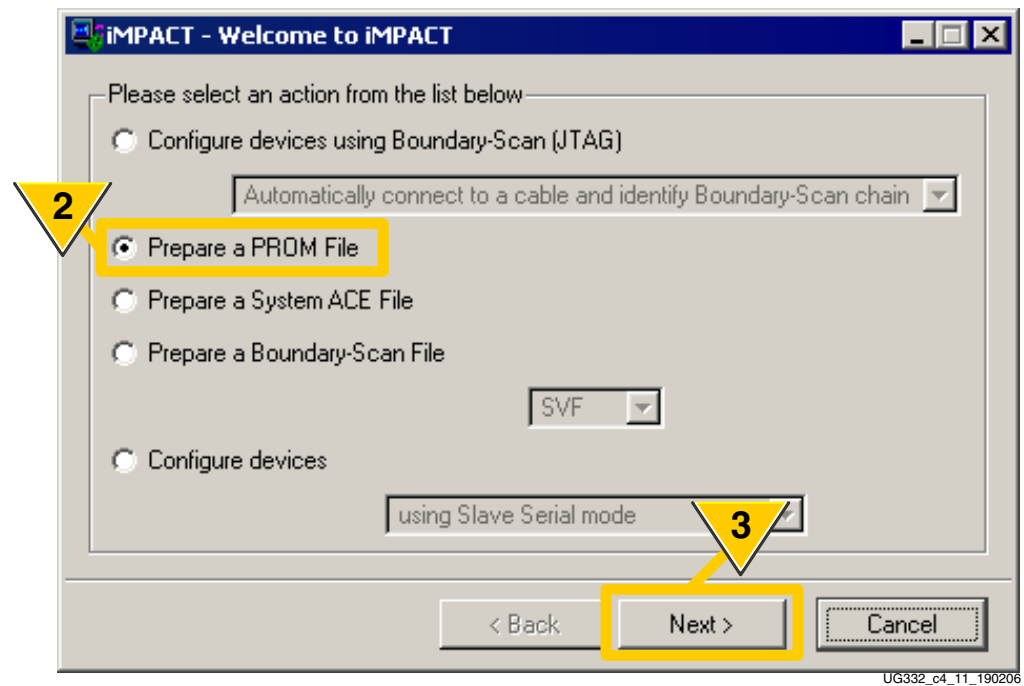

Figure 5-8: **Prepare a PROM File**
- As shown in Figure 5-8, select **Prepare a PROM File**.